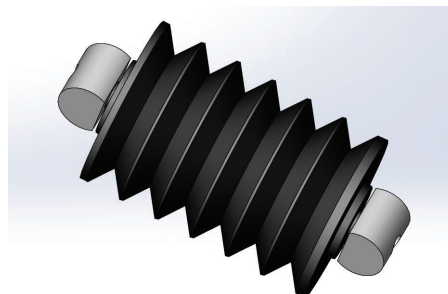

FIGURE 7
10. The shaft ends of the new roll will need to be inspected to make sure that the round adapters line up. See figure 7.